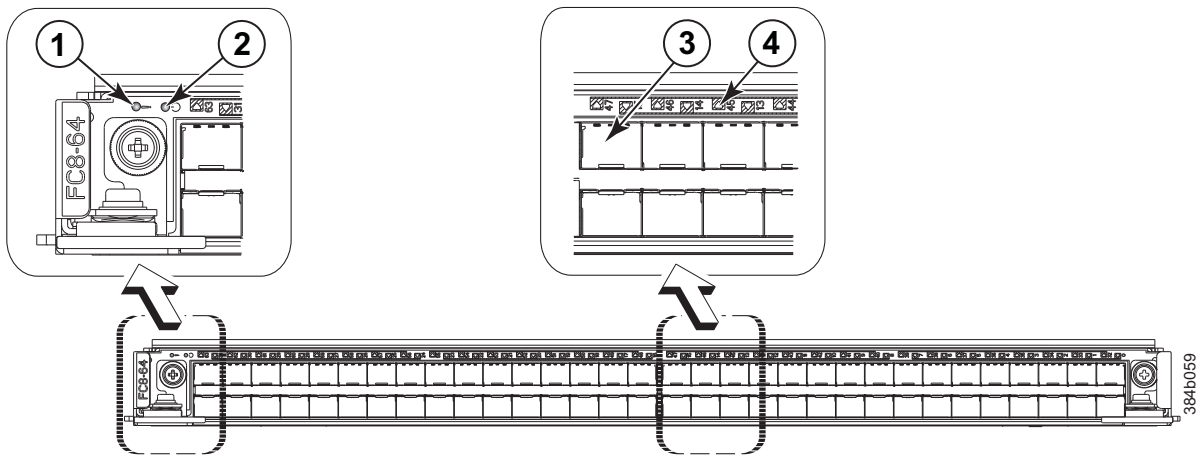

Figure 22. FC8-64 port blade
- Figure 22 on page 51 illustrates the FC8-64 port blade